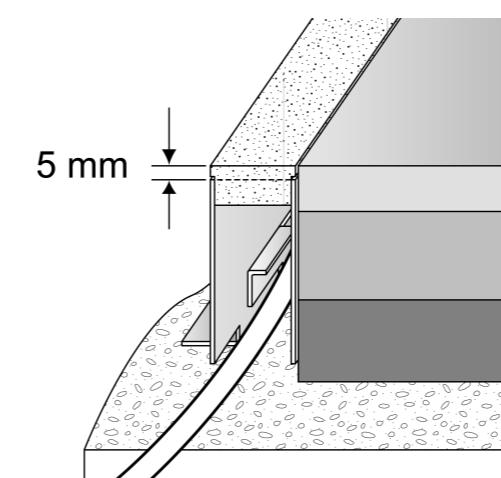

Figure 7
- Place the mounting aid (5) on the frame.
- Fasten the mounting frames with screws (9) and plugs or with bonding compound.
- i** The installed luminaire exceeds the upper edge of the frame by 5 mm . The upper edge of the floor after finishing must therefore also exceed the frame by 5 mm(Figure 7).